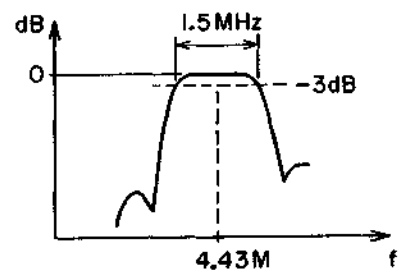

Fig. 83
④ is B.G.P. input and at ③ the gated burst is outputted and sent to APC and color killer.
REC BPF is to take out only 4.43MHz chroma signal from the video input signal. The characteristic is shown in Fig. 83, and the signal is received by EF (TR28) and put into AN6360 ①.